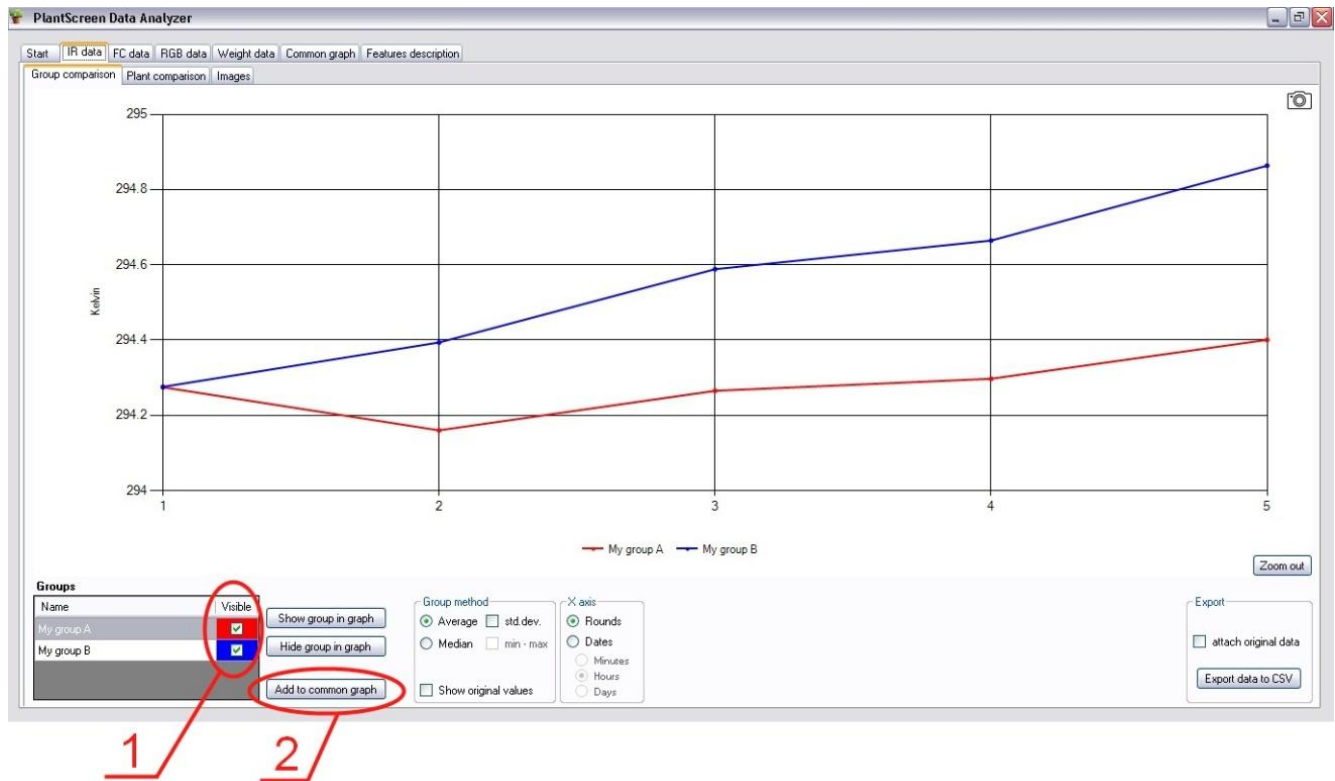

Fig. 18
Go to the tab “IR data” (Fig. 18)
- Check up if both groups are visible (Fig. 18, 1)
- Add current graph items to common graph (Fig. 18, 2)